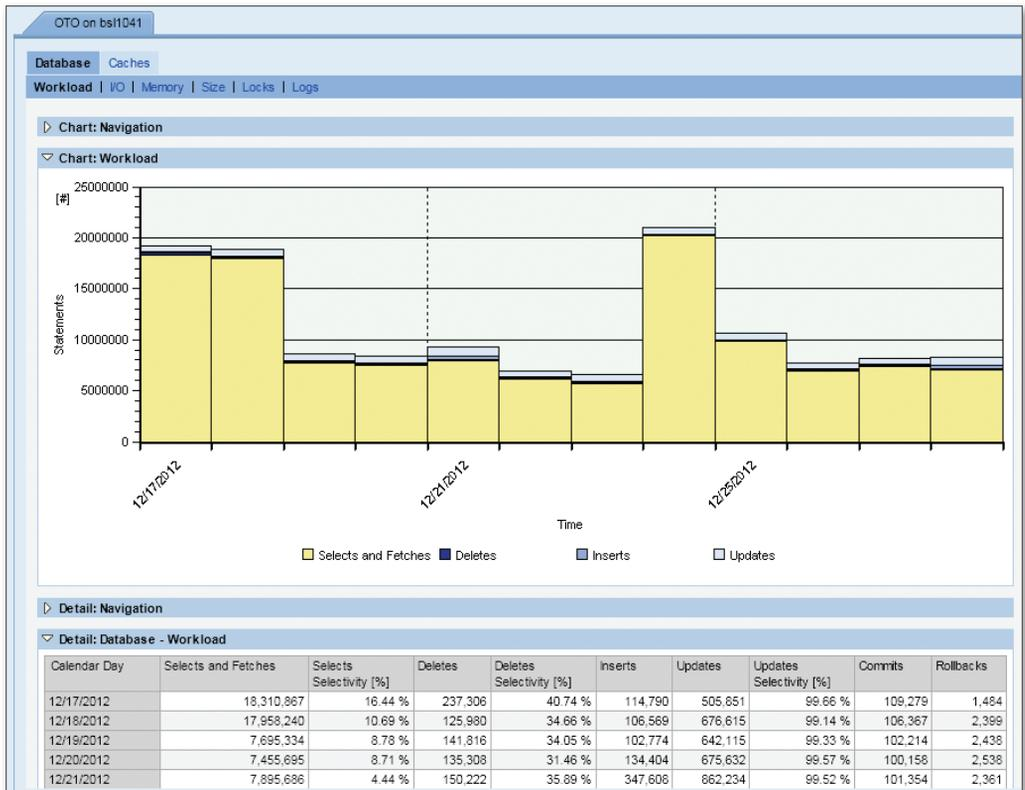

Figure 4.42 Database Analysis
3. On the initial screen, you immediately see the WORKLOAD associated with the database (see Figure 4.42). It may still be necessary for you to load data from SAP NetWeaver BW within SAP Solution Manager by clicking the link CLICK HERE TO LOAD DATA FROM BUSINESS WAREHOUSE.